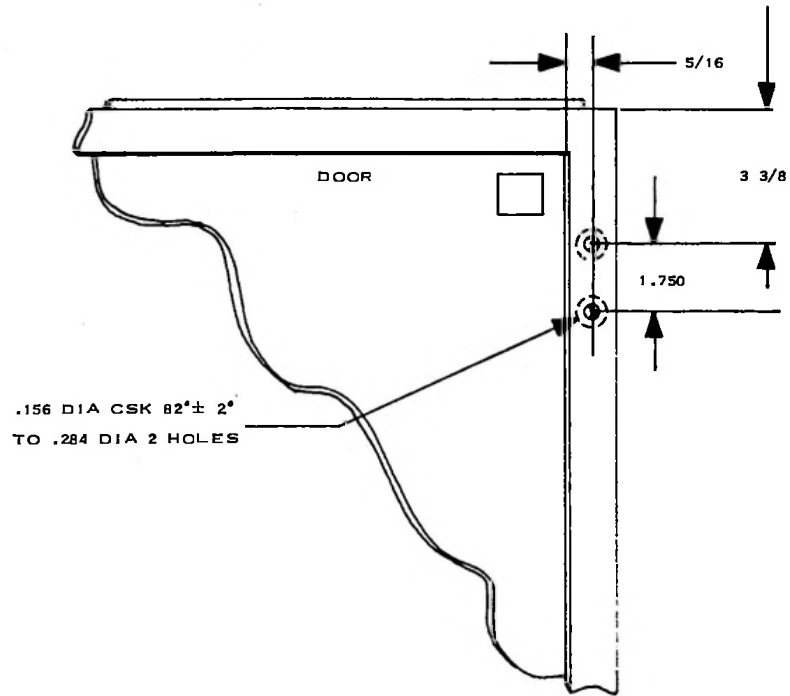

Figure 2. Location of Holes in Door.
- c. Locate and drill two 0.156-diameter holes and countersink $82^{\circ} \pm 2^{\circ}$ to 0.284 diameter, in the door, as shown in figure 2.